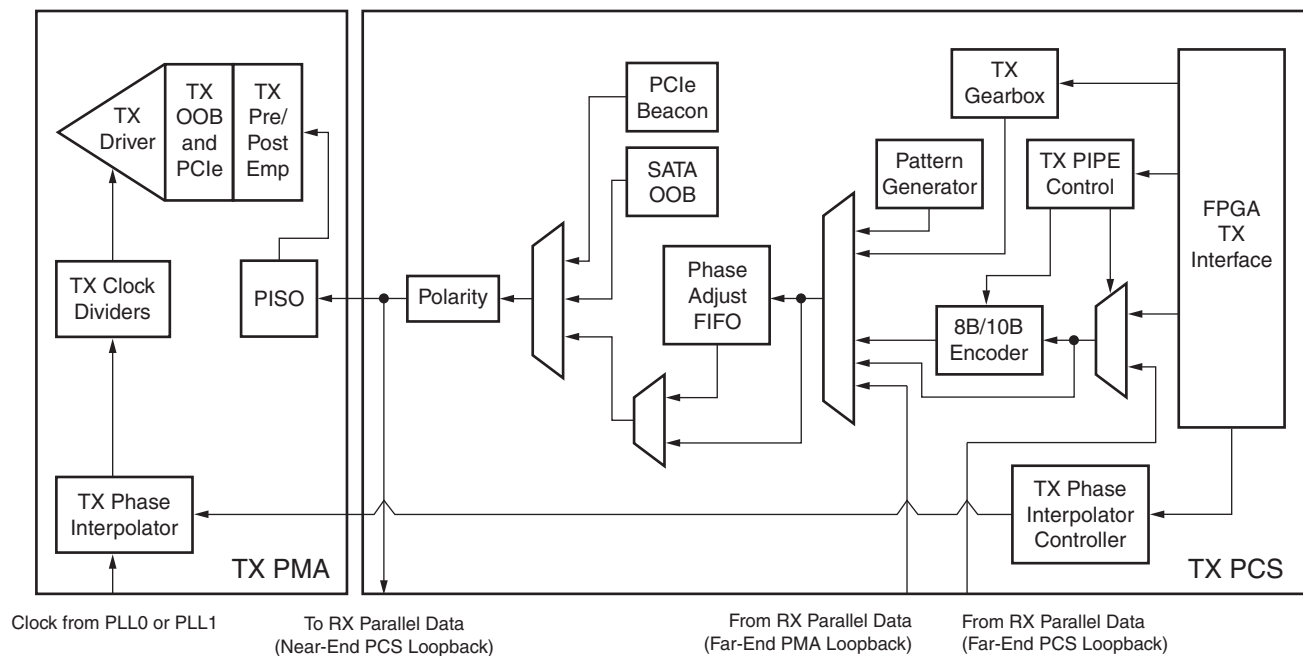

Figure 3-1: GTP Transceiver TX Block Diagram
This chapter shows how to configure and use each of the functional blocks inside the transmitter (TX). Each transceiver includes an independent transmitter, which consists of a PCS and a PMA. Figure 3-1 shows the functional blocks of the transmitter. Parallel data flows from the FPGA logic into the FPGA TX interface, through the PCS and PMA, and then out the TX driver as high-speed serial data.